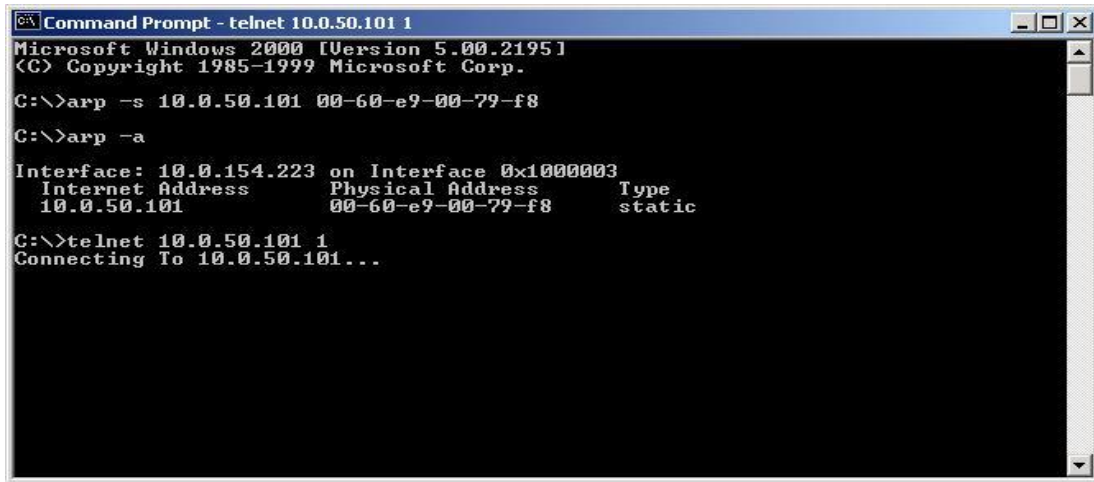

Fig. 33. Assigning a new IP address with ARP command
Step2: Change to the new IP via Telnet port 1(Fig. 33)